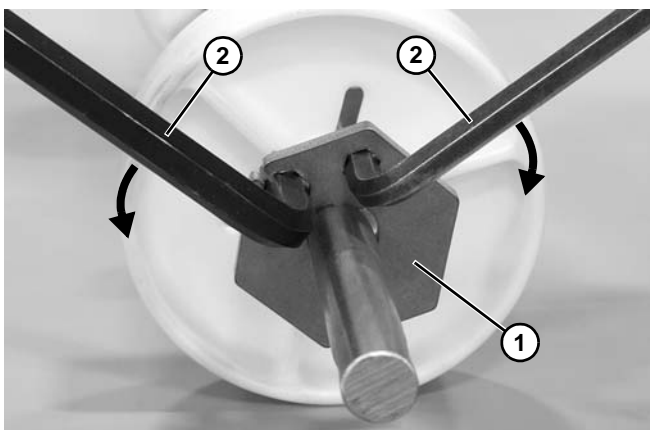

Figure 136
- c. To lock the retainer plate (**Figure 136, item 1**) in place, move the wrenches (**Figure 136, item 2**) away from each other.